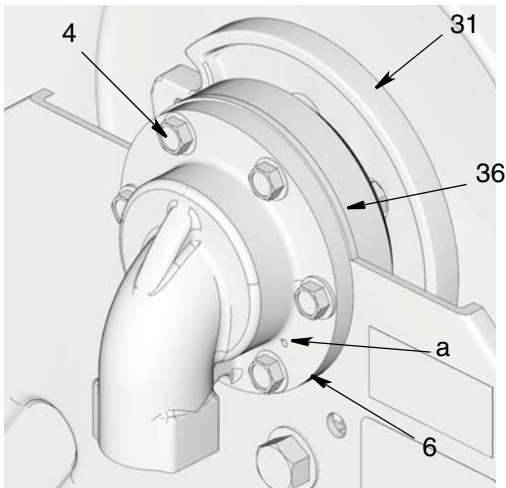
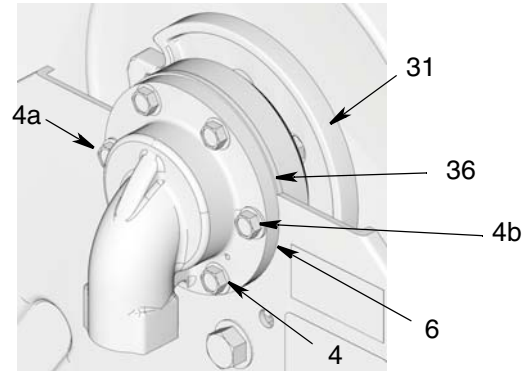

FIG. 20
FIG. 21
- Inlet (6) is designed with a weep hole (a) (FIG. 20) to indicate a failed seal.
2. Remove six bolts (4) (FIG. 20).
- It is not necessary to remove inlet (6) to change it's position.
- Medium Pressure Models ONLY: The shim (36) may move out of place behind the outlet when the bolts are removed. Do not lose this piece. It will be needed for reassembly after the outlet location is adjusted.
3. Rotate inlet (6) to desired location.
4. Medium Pressure Models ONLY: Align shim (36) between inlet (6) and bearing retainer (35) (FIG. 21).
5. First install the side 2 bolts (4a and 4b) as shown in FIG. 21 through frame and inlet (6). Tighten bolts just enough to hold everything in place.
6. Then install the remaining four bolts (4). Hand tighten and then torque all bolts to 25 to 35 ft. lbs (33.9 to 47.45 N•m).